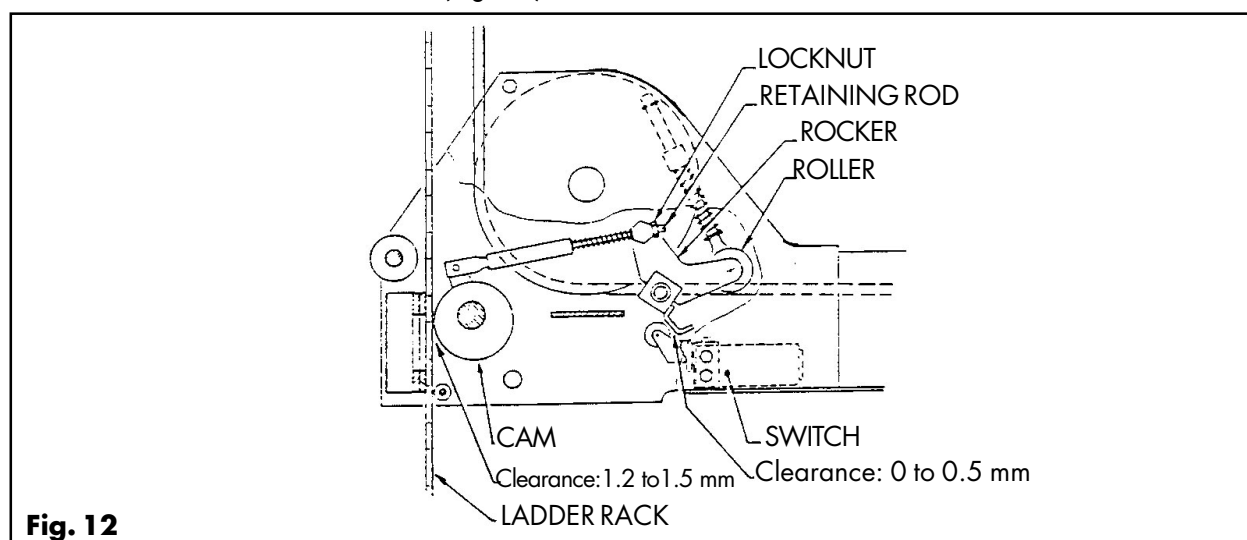

Fig. 12
- At each end of the cross-member, check that there is clearance of between the limit switch roller and the rocker arm cam (Fig. 12).
- Measure the clearance between the cam and the ladder rack. This should be between 1.2 and 1.5 mm. If necessary, release the locknut and adjust the cam retaining rod (See Fig. 12) and check that the cam turns freely.
With the unladen platform raised and suspended on the wire ropes, check at each cross-member end that there is a clearance of approx. 0 to 0.5 mm between the switch roller and the cam that is part of the sensor. If necessary, adjust the position of the switch in order to obtain this clearance (Fig. 12).